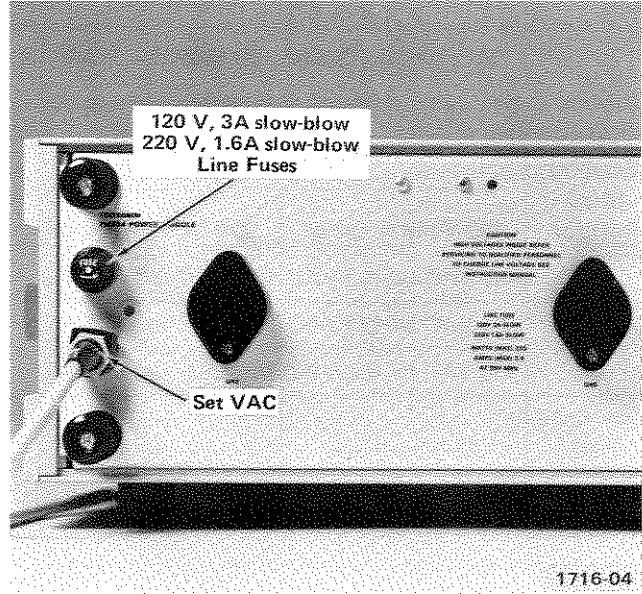

Fig. 3-6. Line voltage set indicator.
7. Check the SET FOR VAC indicator where the power cord enters the back panel (see Fig. 3-6), using the settings given below.